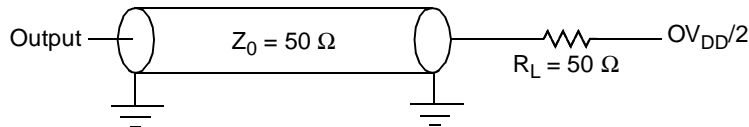

Figure 25. AC Test Load for the JTAG Interface
1. All outputs are measured from the midpoint voltage of the falling/rising edge of t_{TCLK} to the midpoint of the signal in question. The output timings are measured at the pins. All output timings assume a purely resistive 50 Ω load (see Figure 25). Time-of-flight delays must be added for trace lengths, vias, and connectors in the system.
2. The symbols for timing specifications follow the pattern of $t_{\text{(first two letters of functional block)(signal)(state)(reference)(state)}}$ for inputs and $t_{\text{(first two letters of functional block)(reference)(state)(signal)(state)}}$ for outputs. For example, t_{JTDVXH} symbolizes JTAG device timing (JT) with respect to the time data input signals (D) reaching the valid state (V) relative to the t_{JTG} clock reference (K) going to the high (H) state or setup time. Also, t_{JTDXKH} symbolizes JTAG timing (JT) with respect to the time data input signals (D) went invalid (X) relative to the t_{JTG} clock reference (K) going to the high (H) state. In general, the clock reference symbol is based on three letters representing the clock of a particular function. For rise and fall times, the latter convention is used with the appropriate letter: R (rise) or F (fall).
Figure 25 provides the AC test load for TDO and the boundary-scan outputs of the MPC8349EA.